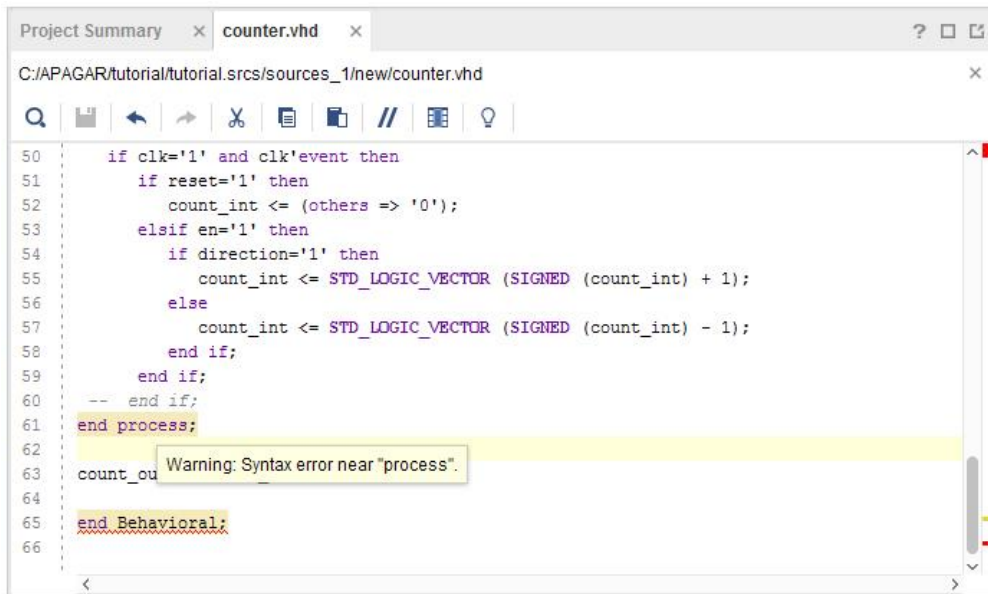

Figure 11
2. Check the status window message for clues about the current critical error in our design (Figure 11)